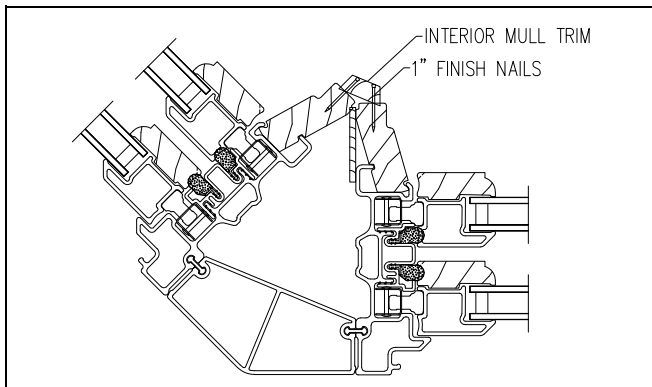

Figure 16
1. If both a head and seat board were installed apply interior vertical and horizontal mull trim (if not, apply mull trim after unit is installed and interior casing has been applied). Measure from head to seat board and cut interior vertical mull trim to length. Center trim at mullion so reveals are equal on each side. Apply trim using finish nails spaced 6"-8" (152-203) apart, set with nail set. See Figure 16.